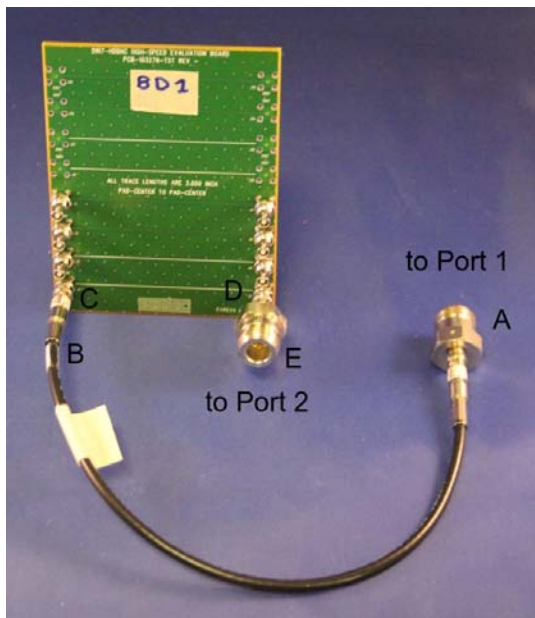
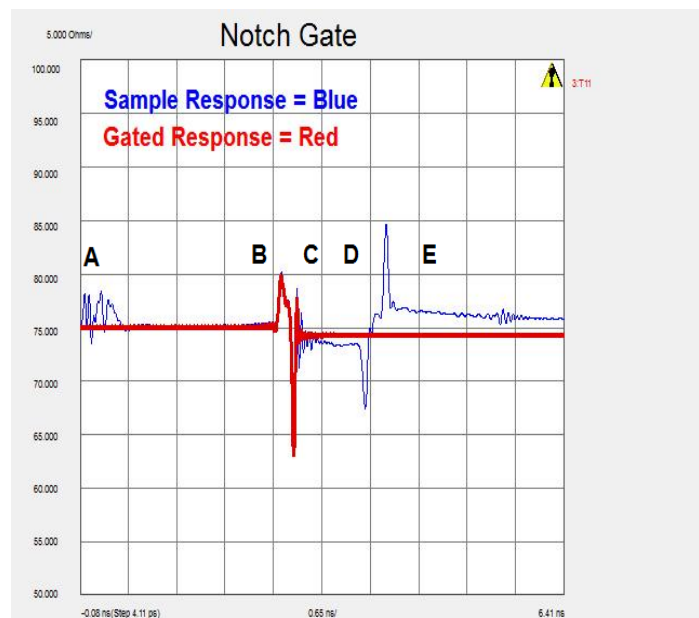

Figure 3 – DUT
Figure 4 - Gating
Post-processing utilizes a procedure called gating. In this test the PLTS tool references the time domain response to 75Ω and allows notch type gates (2) to be placed around the area of interest. The area of interest for this test is the mating HDBNC cable plug and HDBNC PCB jack (*figure 3 - B & C*). Notch gates are placed between A & B and C & E, and when activated become ideal 75 Ω transmission lines (*figure 4, Gated Response*). Transformation back into frequency domain parameters yields VSWR and Return Loss parameters for the mated pair of connectors. Gating cannot be utilized in generating transmission (S21) measurements, therefore insertion losses will include all losses between points A & E of figure 3.